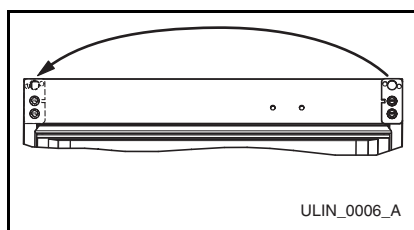

Figure 27
8. With bottom of door facing up, remove pivot plate (two screws), flip over, and remount on opposite side of door (**Figure 27**). **Be sure notch in plate faces center.**